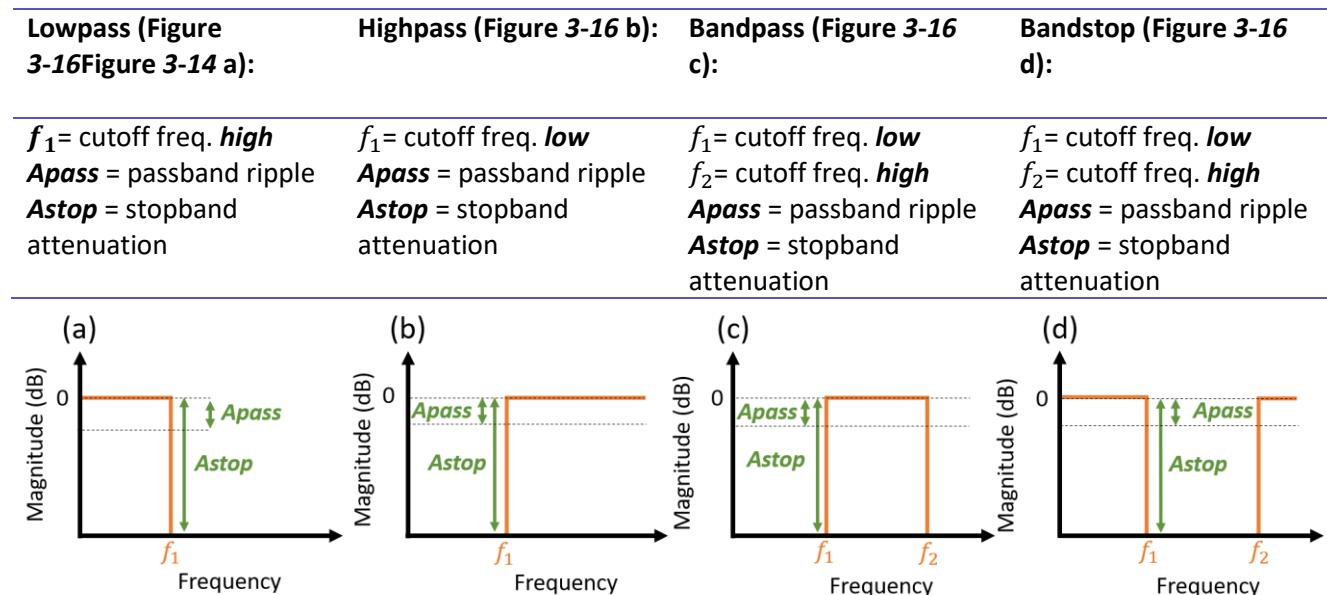

Figure 3-16: IIR Elliptic. **a)** lowpass, **b)** highpass, **c)** bandpass, and **d)** bandstop.
- Elliptic (Table 3-8 and Figure 3-16): (`fdesign` function in MATLAB).